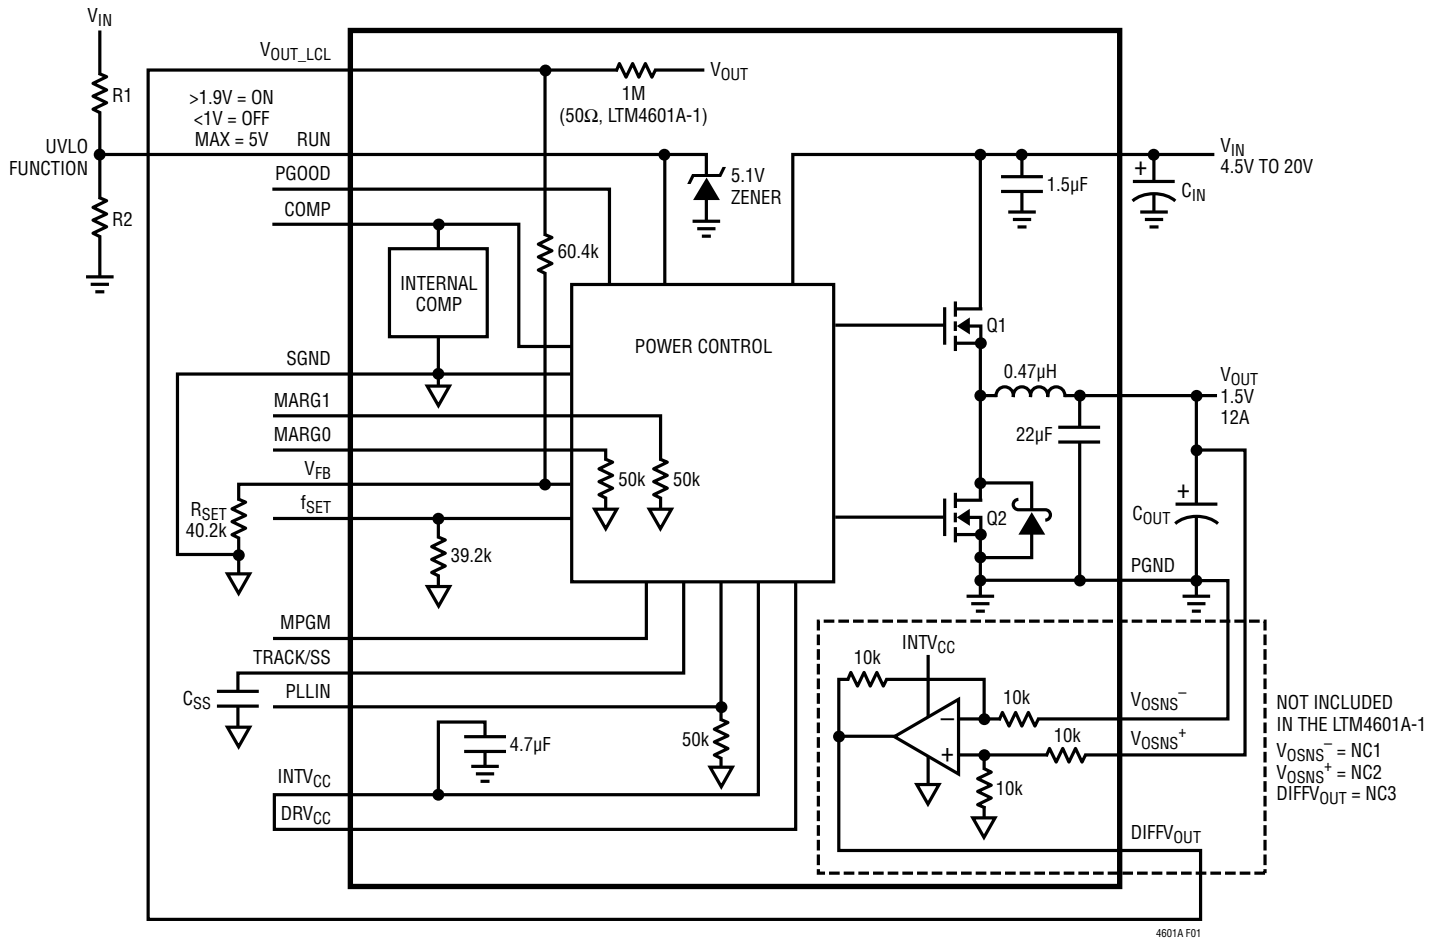

Figure 1. Simplified LTM4601A/LTM4601A-1 Block Diagram
**RUN (Pin A10):** Run Control Pin. A voltage above 1.9V will turn on the module, and when below 1V, will turn off the module. A programmable UVLO function can be accomplished by connecting to a resistor divider from  $V_{IN}$  to ground. See Figure 1. This pin has a 5.1V Zener to ground. Maximum pin voltage is 5V. Limit current into the RUN pin to less than 1mA.
DECOUPLING REQUIREMENTS  $T_A = 25^\circ C$ ,  $V_{IN} = 12V$ . Use Figure 1 configuration.
See Figure 1, Simplified Block Diagram.